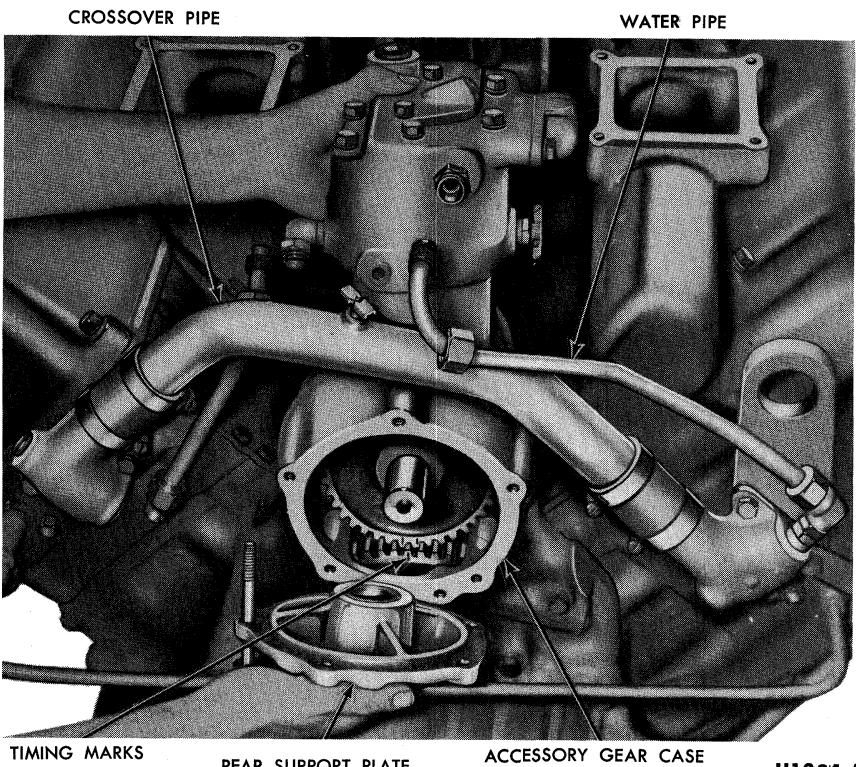

FIG. 12—Removing or Installing V-6 Air Compressor—H-Series Typical of F-, T-, and N-Series
the crossover pipe because the cross-over pipe goes over the top of the accessory gear case as shown in Fig. 12.
plate and the compressor to the accessory gear case. Remove the rear support plate from the rear side of the gear case (Fig. 12), and remove the compressor from the front side of the gear case.
2. Position the air compressor with a new gasket to the front side of the gear case so that the timing marks on the air compressor drive gear are aligned with the marks on the cam-shaft gear (Fig. 12). Be sure that the gears mesh properly.